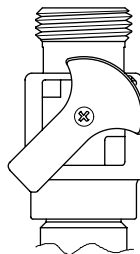

Figure 2
- Open the water supply. Then open probe valve on Perlick Smart coupler to the 45° position. *See figure 2.* The beer pump will slowly pump up the beer line in the trunk housing to 25 psig. Note: If pump continues to run for longer than expected, check lines for possible leaks at one or more of the connections.